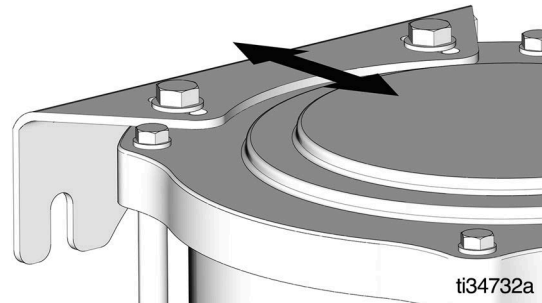

FIG. 5
- Use the five (5) fasteners (included) to secure the G3 pump to the mounting surface. Three (3) fasteners are used for the bottom bracket and two (2) fasteners are used for the top bracket.
- Adjust top mounting bracket, if necessary, to align the bracket with the mounting surface (FIG. 5).